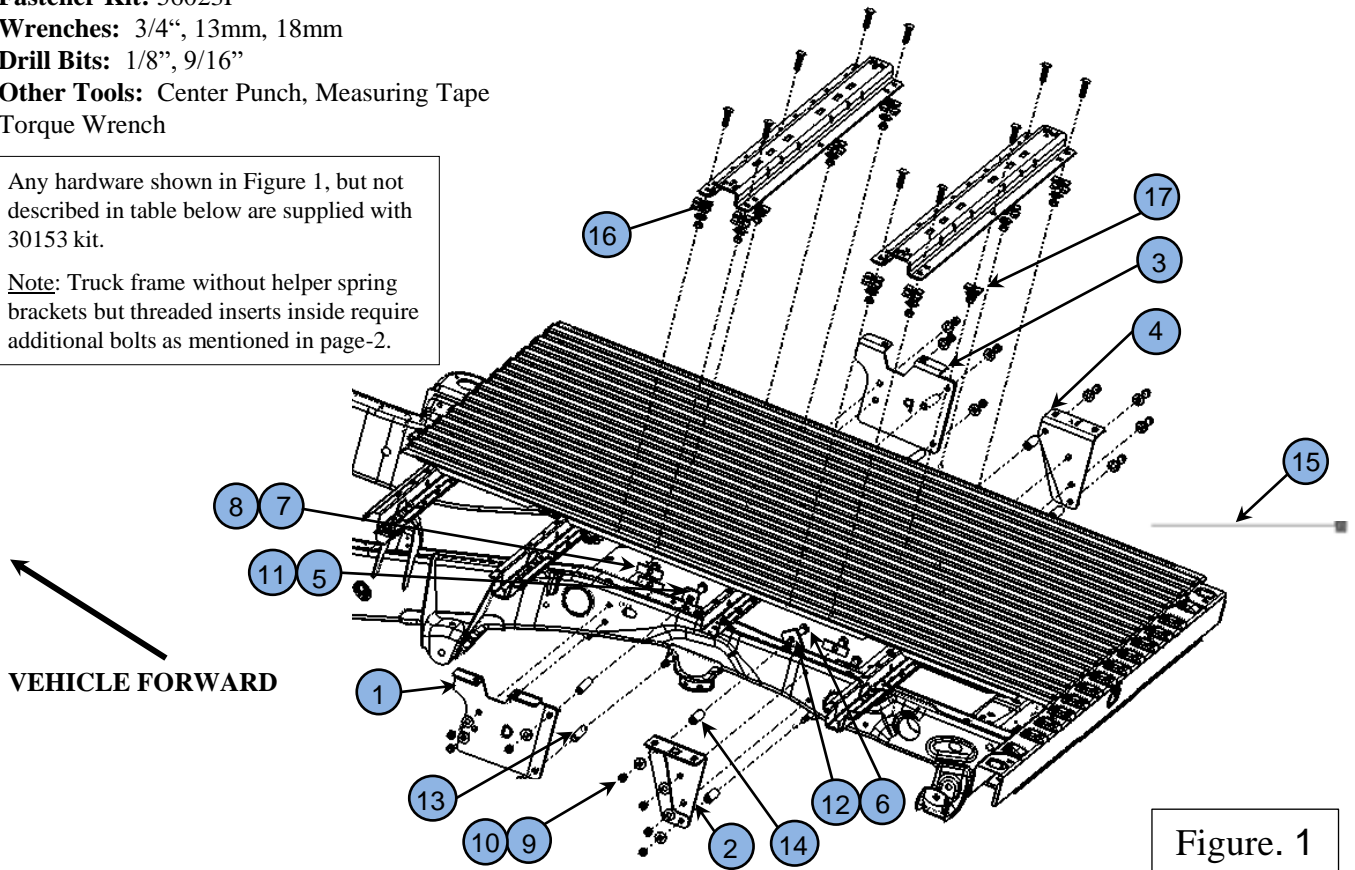

Figure. 1
Any hardware shown in Figure 1, but not described in table below are supplied with 30153 kit.
1. Place the front mounting rail in the bed of the truck. Using a tape measure, center the rail on the floor of the truck bed and locate the proper distance from the rear of the rail to the back edge of truck bed as illustrated on figure (3). Choose the correct dimensions from figure (3) per Standard/Long truck bed.
3. Loosely install the Front frame brackets (1) and (3) using appropriate hardware and hand tighten. (See figures 1, 4, 7) **NOTE: If the truck has helper spring brackets / no helper spring brackets but threaded inserts inside of the frame, refer to additional instructions on page-9 for installing frame brackets.**
**DRIVER FRONT BRACKET (1):**
A. Using two 1/2" fishwires (15) provided, install two 1/2" x 1.75 carriage bolts (7) and 1"x3" blocks (8) using slot (Inside frame holes on Driver side are blocked by fuel tank and are not accessible) on outside of the frame. Run the fishwire going in from this slot and come out of the bolt holes as shown in figure (4). Keep both fishwires on the bolt until the bracket is installed. Place the conical washer (9) on the carriage bolt and secure with nut (10).
B. Now position the Front mounting block (5) on driver side against inside of the frame. While positioning front mounting block, the brake line bracket will be in the way. Loosen the two-brake line support bracket bolts (M8) as shown in figure (5), creating enough space for mounting block to pass through, until closely aligning mounting block slots with frame bracket holes. Now install two 1/2" x 5.5 carriage bolts (11) running from inside of frame through mounting block, 1/2"x3.5 Tube Spacer (13) and frame bracket as shown in figures (1 & 4). Place the conical washer on the carriage bolt and secure with the nut. Fasten the brake line bracket bolts.
**PASSENGER FRONT BRACKET (3):**
C. Following the similar procedure as on the driver's side, using two 1/2" fishwires provided, install two 1/2" x 1.75 carriage bolts (7) and 1"x3" blocks (8) using larger top hole on inside of frame as shown in figure (8). Run the fishwire from this hole and coming out of the carriage bolt hole. Place the conical washer and secure with the nut.
D. Now position the front mounting block on passenger side (5) against inside of the frame aligning slots with frame bracket holes. Install two 1/2" x 5.5 carriage bolts (11) running from inside of frame through mounting block, 1/2"x3.5 Tube Spacer (13) and frame bracket as shown in figures (1 & 7). Place the conical washer on the carriage bolt and secure with the nut.
6. Reposition the front mount rail over the enlarged holes. Install the front rail using carriage bolts supplied in 30153 kit. Ensure 5/16" U-shaped spacer supplied in 30153 kit and 1/4" U-shaped spacer supplied in 56023 kit are installed as shown in figures (2.a and 2.b). Attach the 1/2" conical washers and hex nuts on bottom side of the frame brackets (1) and (3). Install center bolt using the supplied 1"x2" block (17) on bottom side of bed floor. Hand tighten all fasteners.
8. Loosely install the Rear frame brackets (2) and (4) using appropriate hardware and hand tighten. (See figures 1,4,7)
**DRIVER REAR BRACKET (2):**
- A. Using two 1/2" fishwires provided, install two 1/2" x 1.75 carriage bolts (7) and 1"x3" blocks (8) using larger top hole on inside of frame as shown in the figure (6). Run the fishwire from this hole and come out of the bolt holes. Place the conical washer (9) on the carriage bolt and secure with nut (10).
- B. Now position the rear mounting block (6) against inside of the frame. Rear mounting blocks will be tilted in position. While positioning rear mounting block, wire harness will be coming in the way. Remove the wire harness retainers (tree style) with appropriate tool from the frame as shown in figure (6). Now install two 1/2" x 4.5 carriage bolts (12) running from inside of frame through rear mounting block, 1/2"x2.5 Tube Spacer (14) and frame bracket as shown in figure (7). Place the conical washer on the carriage bolt and secure with the nut.**PASSENGER REAR BRACKET (4):**
- C. Following the similar procedure as on the driver's side, using two 1/2" fishwires provided, install two 1/2" x 1.75 carriage bolts (7) and 1"x3" blocks (8) using larger top hole on inside of frame as shown in the figure (9). Run the fishwire from this hole and come out of the carriage bolt hole. Place the conical washer and secure with the nut.
- D. Position the rear mounting block (6) against inside of the frame aligning slots with frame bracket holes. Now install two 1/2" x 4.5 carriage bolts (12) running from inside of frame through the mounting block, 1/2"x2.5 Tube Spacer (14) and frame bracket as shown in figure (7). Place the conical washer on the carriage bolt and secure with the nut.
10. Mark and center punch the holes in rear mounting rail as per figure (3). Move the rear rail out of the way and drill with a 1/8" drill bit. **CAUTION: When drilling holes through the bed be sure what is below the truck bed in those locations.**